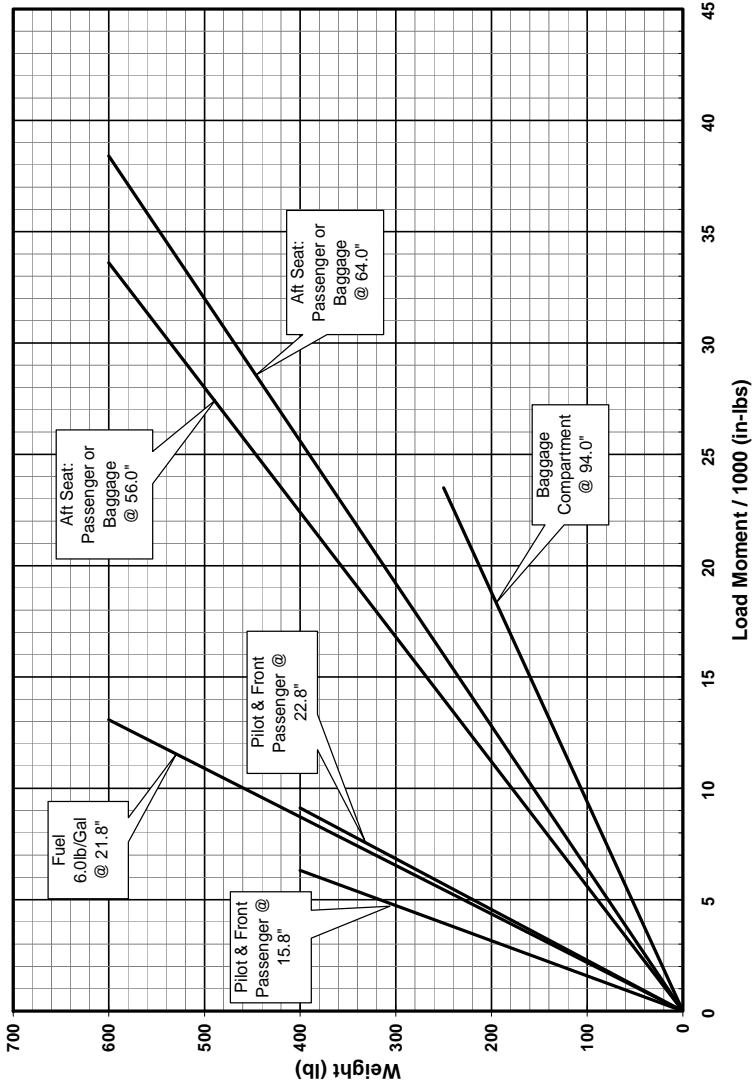
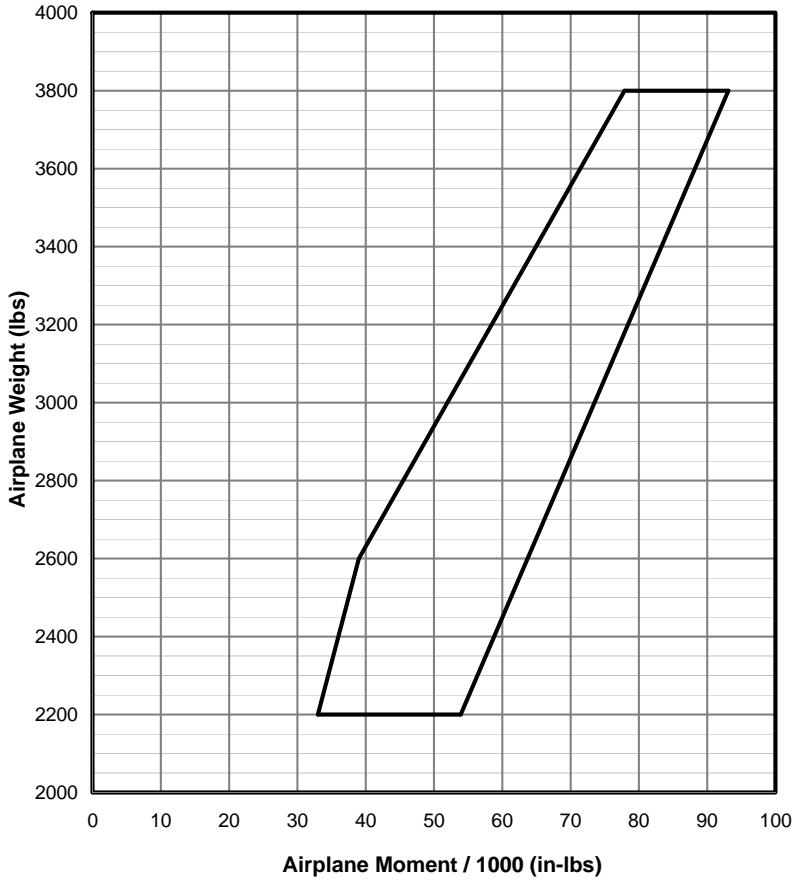
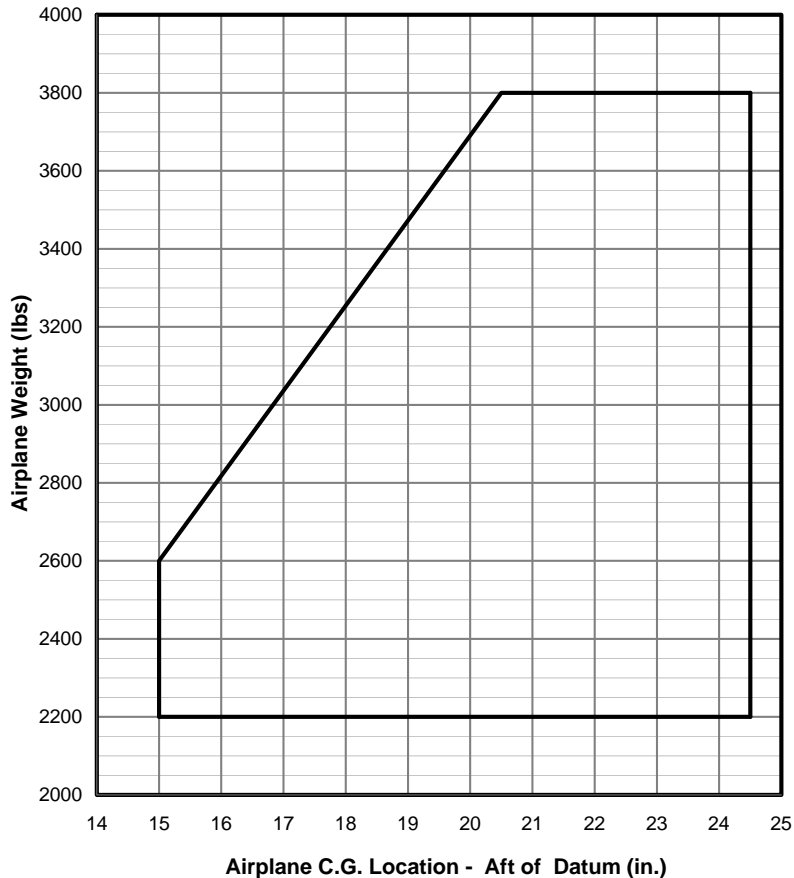

Figure 6-5 Loading Graph
Figure 6-6 Centre of Gravity Moment Envelope
Figure 6-7 Centre of Gravity Range Envelope
It is the responsibility of the pilot to ensure that the airplane is properly loaded and operated within the weight and center of gravity limits. The following information will enable you to operate your FBA-2C3 within these limits. To calculate the weight and balance for a particular loading use the Sample Weight and Balance Loading Form (Figure 6-4), Loading Graph (Figure 6-5), Centre of Gravity and Moment Envelopes (Figure 6-6) and Centre of Gravity Range Envelope (Figure 6-7) as follows:
2. Use the Loading Graph (Figure 6-5) to determine the moment/1000 for each item (pilot & co-pilot, passengers, fuel, and baggage); then list these on the loading form (Figure 6-4).
3. Sum the weights and moments/1000 (Item 9 in the Figure 6-4 Sample Weight and Balance Loading Form). Plot these values on the Centre of Gravity Moment Envelope (Figure 6-6) and on the Centre of Gravity Range Envelope (Figure 6-7) to determine whether the point falls within the envelope, and see if the loading is acceptable.
| Note 2: The takeoff condition moment and CG must be within the limits shown in Figure 6-6 and Figure 6-7 at the takeoff weight condition. | | | | | | | |